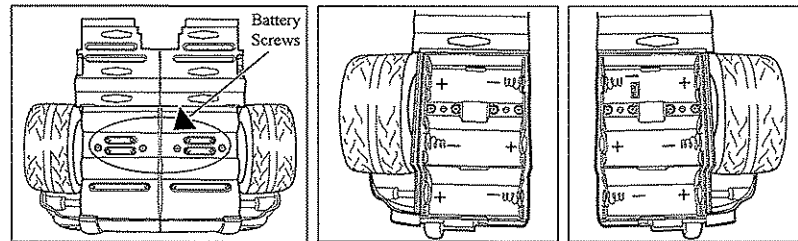

Fig 2
- 2) The battery compartments are accessed by removing the screws on the battery doors. (See Fig. 2)